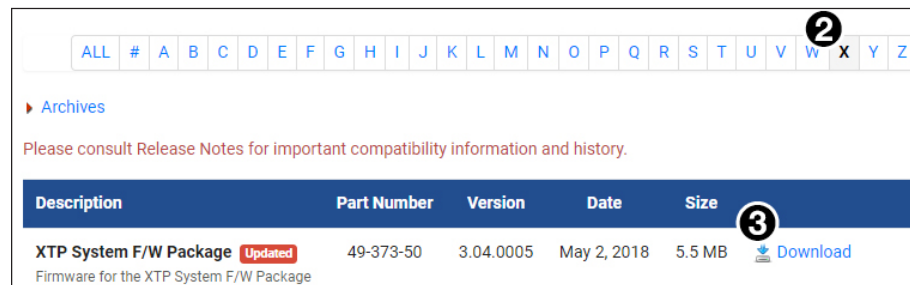

Figure 65. Downloading Firmware from the Extron Website
2. Navigate to the desired product (see figure 65, ❷).